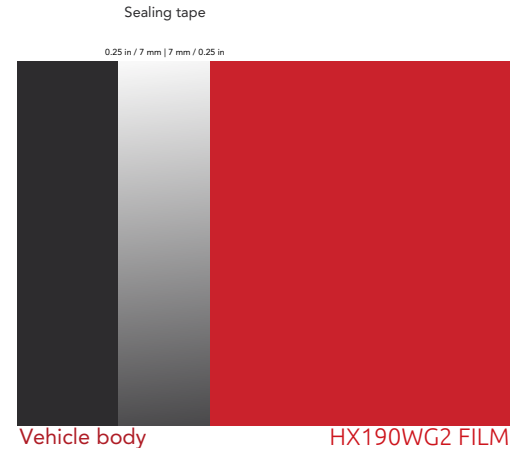

Figure 25
- › Apply the strip by overlapping it by approximately 7 mm (¼ in.) over the body work and 7 mm (¼ in.) over the HX190WG2 film. (FIG. 25)